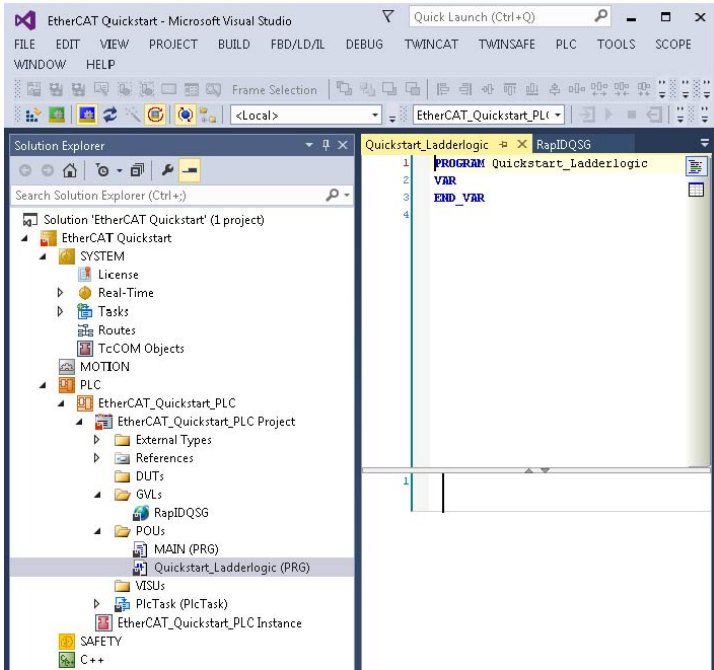

Figure 44. Ladder Logic File Part 1
2. The screen now appears as shown in Figure 44 with **Quickstart_Ladderlogic** on the left and a location for the ladder logic in a new window to right.